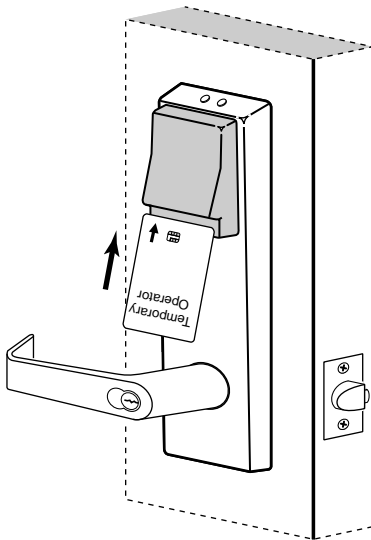

Figure 18b Using the temporary operator card with a smart card reader
- 1 With the writing facing towards you, insert and remove the temporary operator card, as shown in Figure 18b.